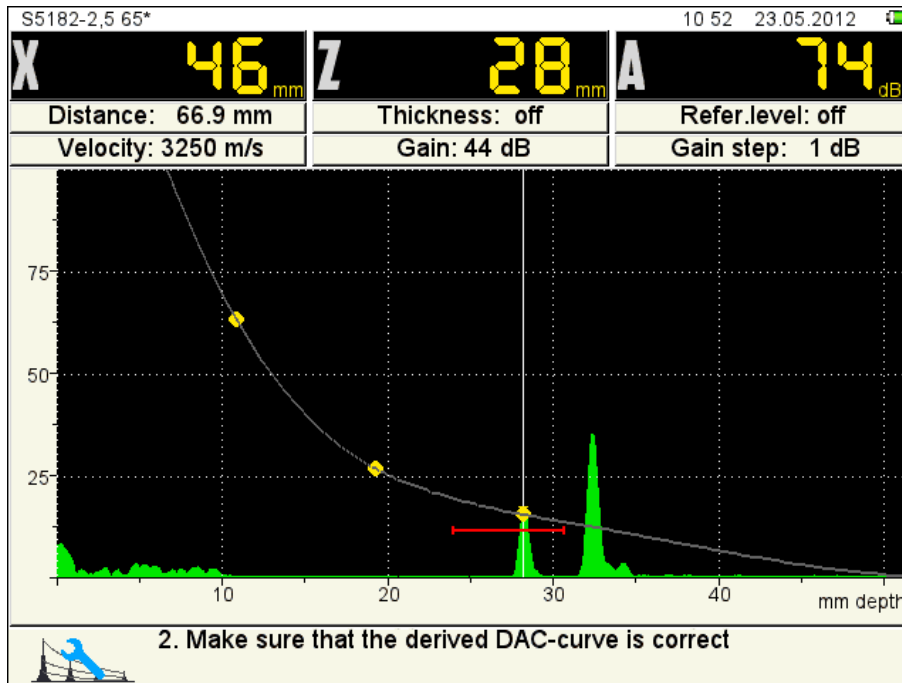

Figure 38
– After temporal envelope creation from all control reflectors, press the key . DAC curve automatically formed on envelope peaks appears on the screen (Figure 38).